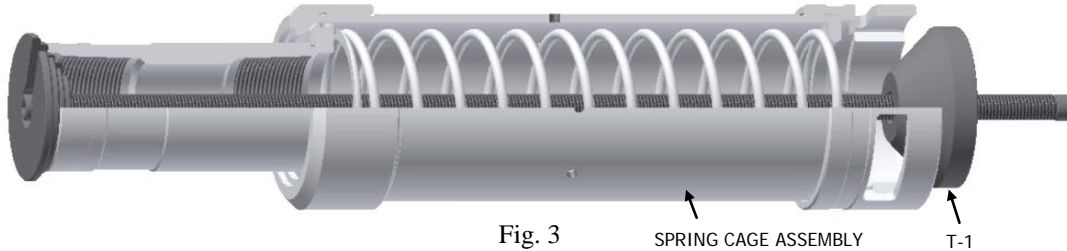

Fig. 3
H-1.1.3) Compress compression spring (4) with assembly tool (T1) (Fig. 3).